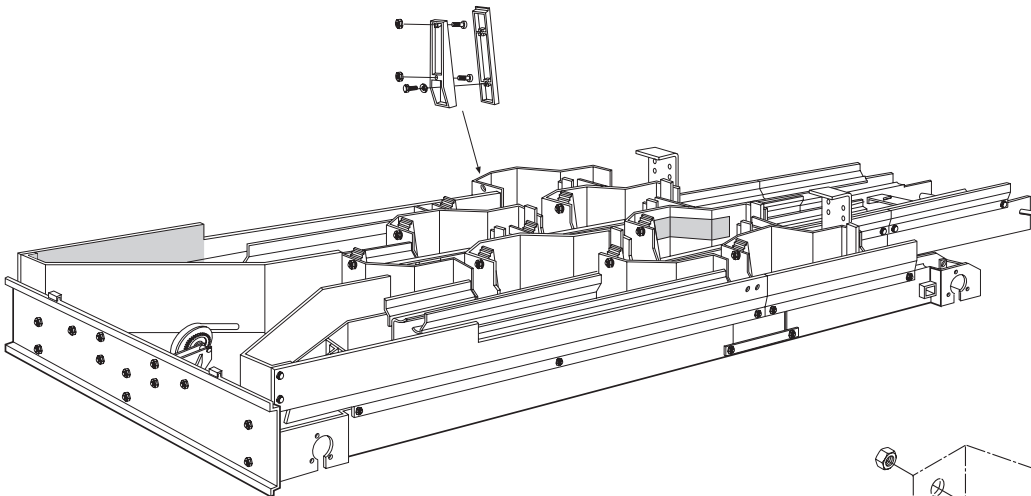

Figure 3
3. Loosen the two 6mm x 18mm socket head cap screws that attach the slider assembly to the distributor frame. Remove the slider assembly from the distributor. Refer to Figures 3 and 4.